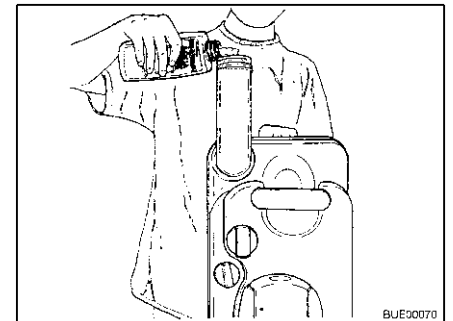

Fig. 255 Filling with sanitary liquid
- Fill the stated amount of sanitary liquid into the sewage tank (Fig. 255).